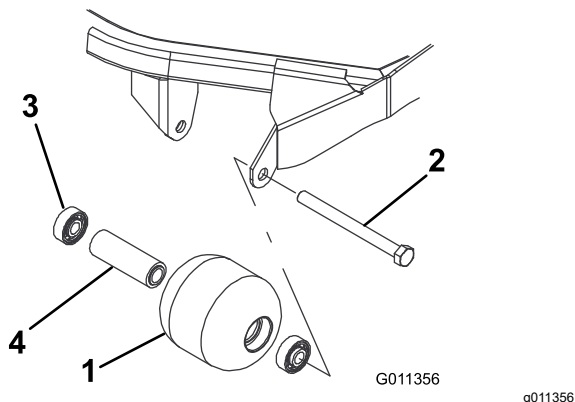

Figure 88
1. Remove the roller-mounting bolt (Figure 88).
1. Press the first bearing into the roller housing (Figure 88). Press on the outer race only or equally on the inner and outer race.
2. Insert the spacer (Figure 88).
3. Press the second bearing into the roller housing (Figure 88). Pressing equally on the inner and outer race until the inner race contacts the spacer.
4. Inspect the roller housing, bearings, and bearing spacer for damage (Figure 88). Replace any damaged components and assemble them.